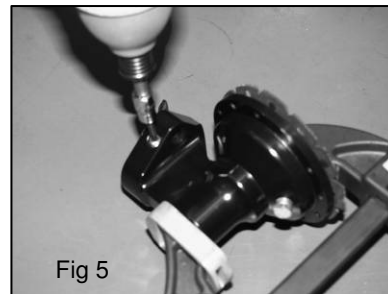

Fig 5
5. Remove the fuel pump arm pivot 5/32 allen screw (Figure 5)